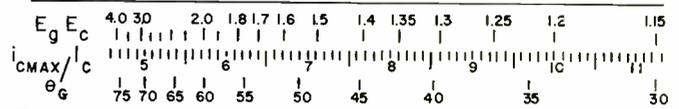

Fig. 7: Linear form of the plot which enables the known voltage ratio to be used to determine the current ratio.
14. On Fig. 7, read  $i_{cmax} / I_c$
Wagener points out that  $\cos \theta_G = -E_c/E_g$ . Refs. 4 and 6 plotted this relationship against the ratio  $i_{cmax}/I_c$ , so that the known voltage ratio could be used to determine the current ratio. This plot has been reproduced in linear form as Fig. 7 on the procedure sheet.